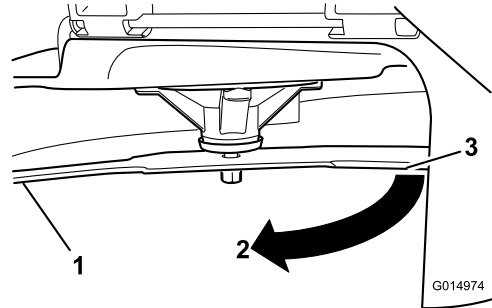

Figure 53
4. Rotate the same blade 180 degrees so that the opposing cutting edge is now in the same position (Figure 53).